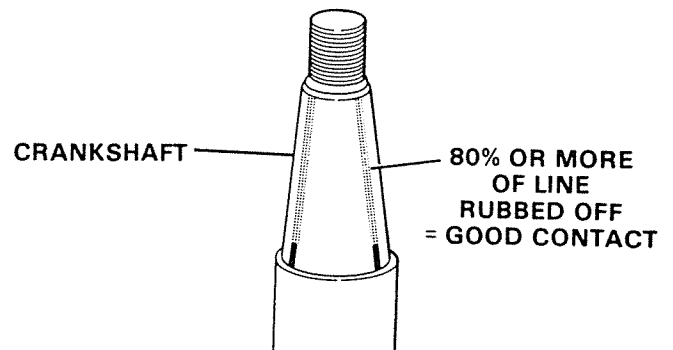

Figure 7. Checking Contact: Flywheel Bore, Crankshaft.
- D. Remove flywheel and check contact (percentage of lines rubbed off). Figure 7.